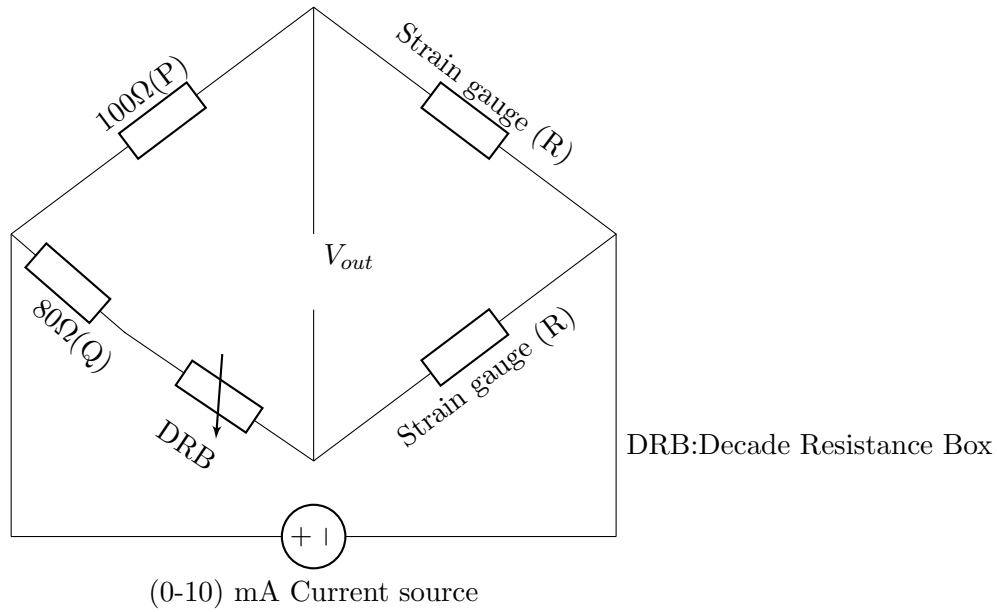

Figure 1.3: Wheatstone bridge circuit diagram.
2. Make the connections of the circuit diagram as shown in Figure 1.3.